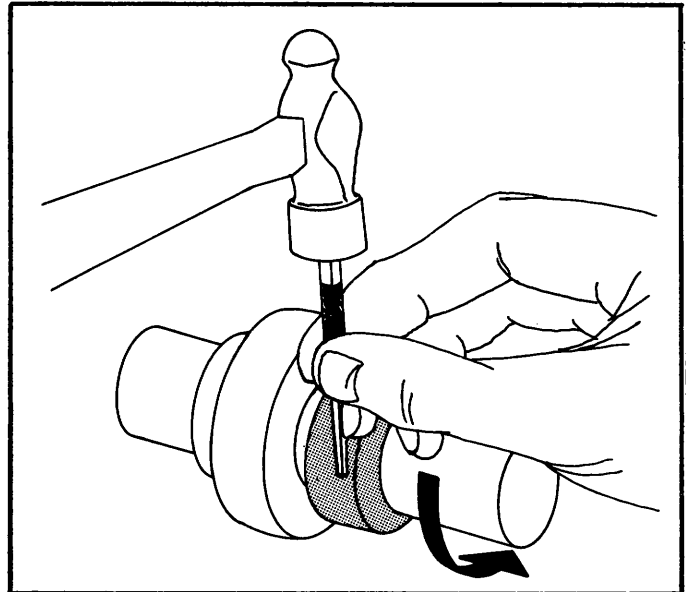

FIGURE 42
- 3 - With draft pin in collar hole, strike in direction of shaft rotation to lock. See Figure 42.